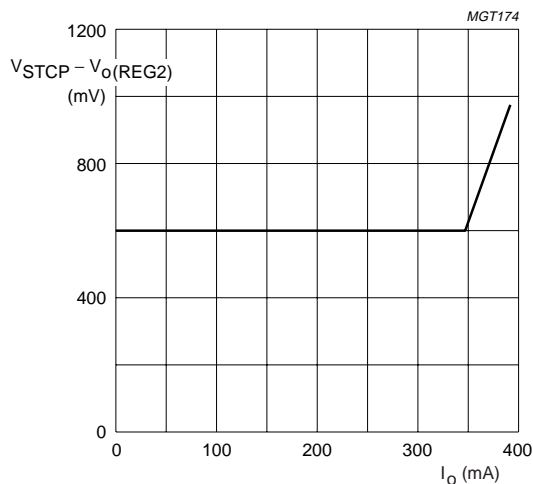

Fig.6 Dropout voltage of V_{STCP} as a function of the output current of regulator 2.
4. The dropout voltage of regulator 2 is the voltage difference between V_{STCP} and $V_{o(\text{REG2})}$ and depends on the load current (see Fig.6).